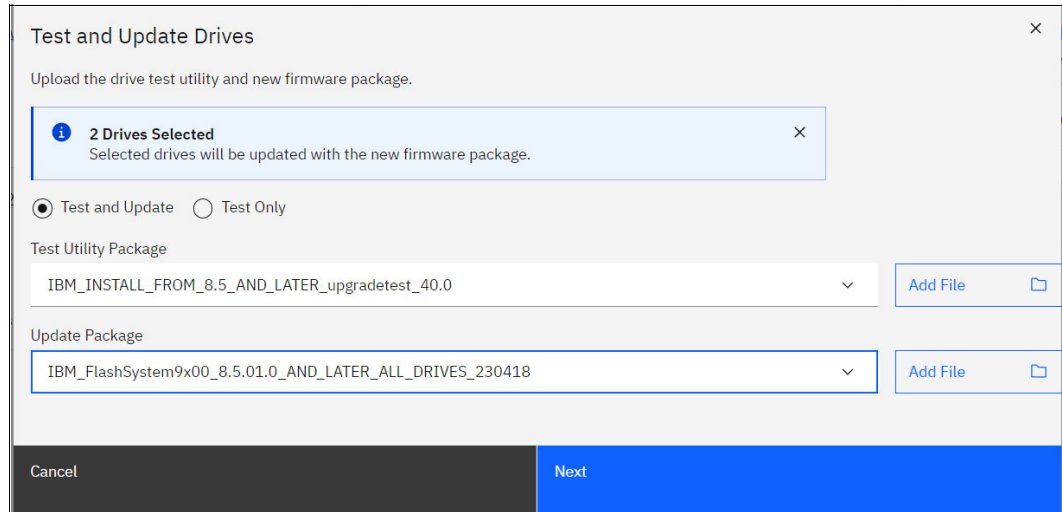

Figure 10-13 Drive firmware upgrade
2. As shown in Figure 10-13, browse to the test utility and drive firmware package you downloaded, as described in “Obtaining the software packages” on page 647. To upload the required files use the click **Add File** or use the option **File Upload** as described in “Provide the package manually” on page 648.